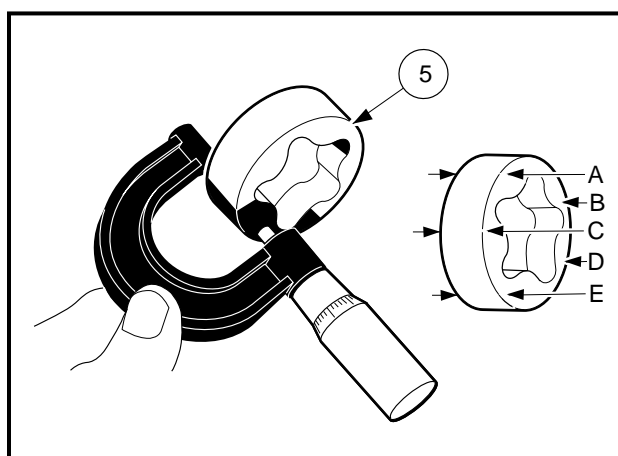

Figure 13-69 Measure Thickness of Outer Rotor
- 4.4. Using a micrometer, measure the thickness of the outer rotor (**Figure 13-69, Page 13-33**).